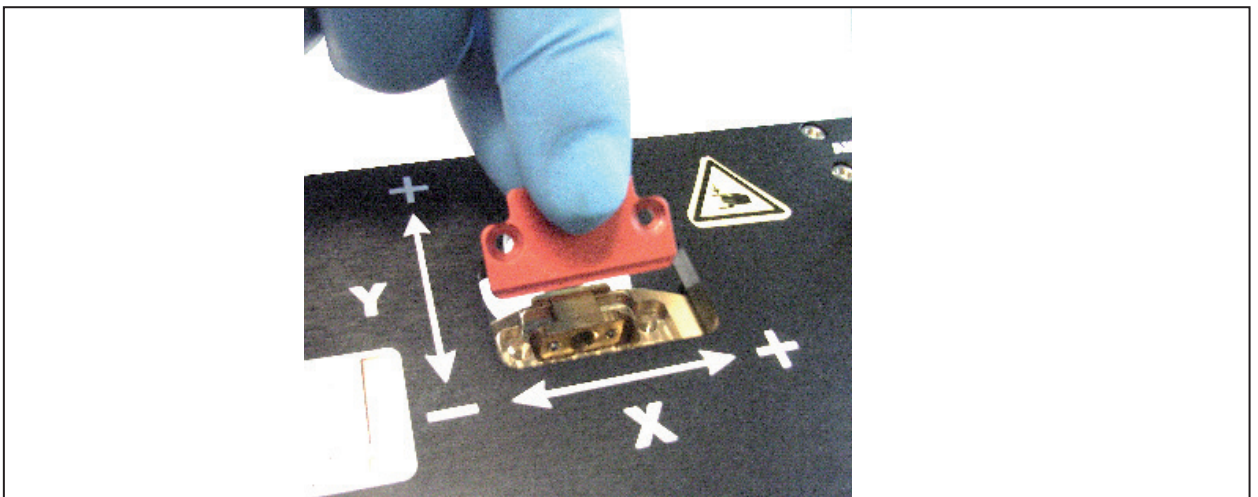

Fig. 7.4: Inserting the retaining plate
6. Insert the retaining plate in the disc with the guidance groove pointing upwards and an angle of 45 degrees and press it downwards into the opening (see Fig. 7.4).